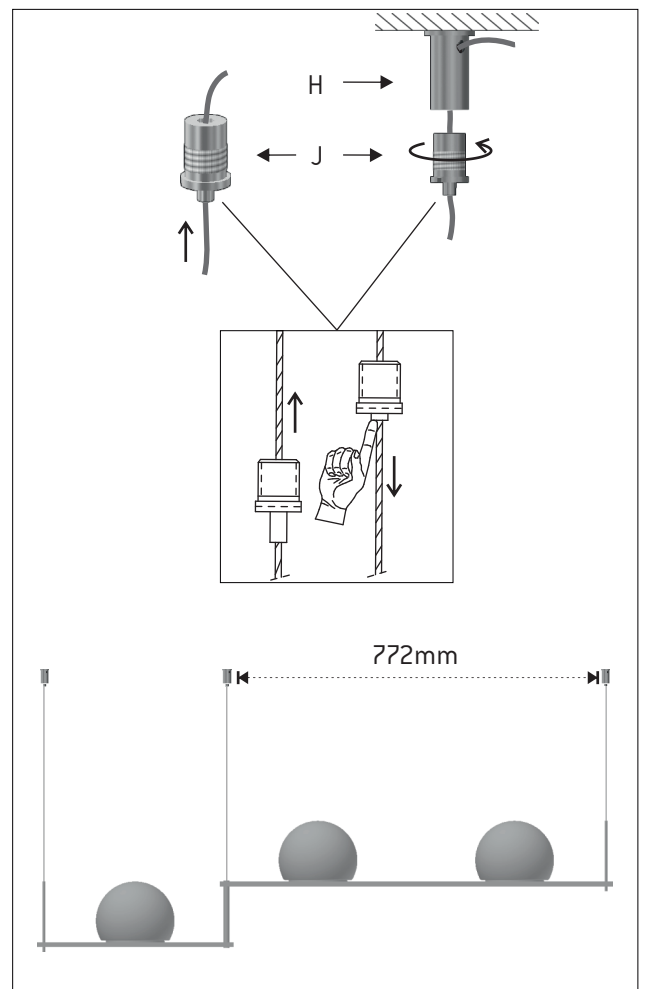

Figure 6
6 - Insert the steel cables into the gripper supports (J) and then insert them through the side hole of the tensors (H). Again screw the gripper support to the tensor and adjust the cable to the desired length. Figure 6